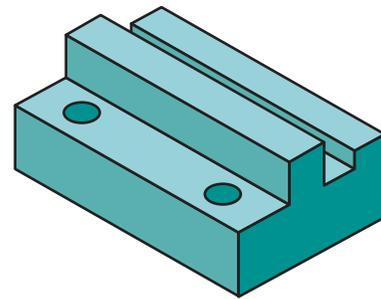

Figure A-52 Drawing for question 3.
3. Draw the three third-angle projection views for the part shown in Figure A-52.